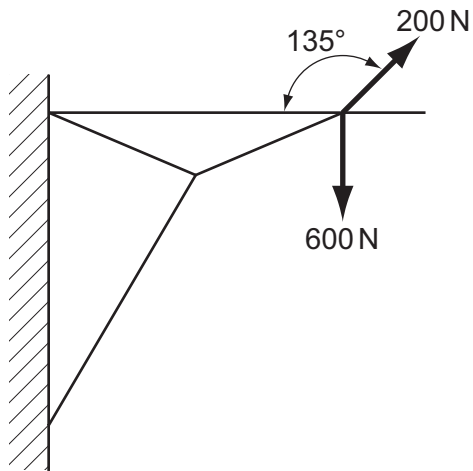

Fig. 11
- (e) Fig. 11 shows a framework fixed to a wall. Two forces are shown acting at a point in the framework.